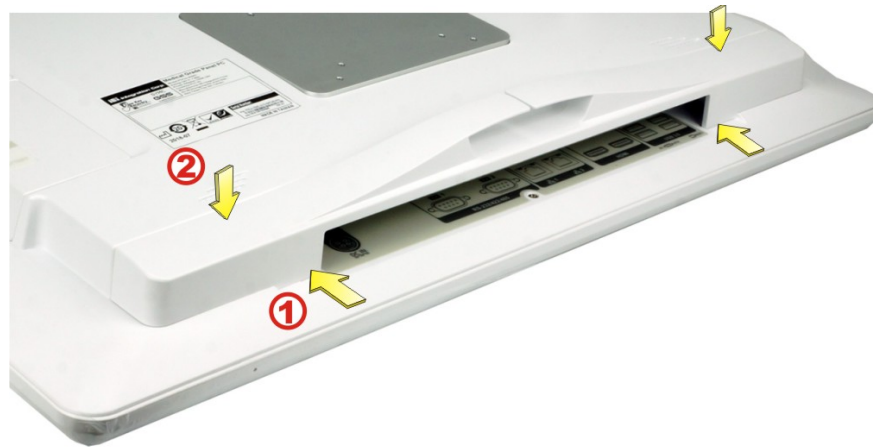

Figure 3-17: Cable Cover Installation
Step 1: Align the two tabs on cable cover with the slots on the bottom panel of the POCm-W22/24C-ULT3 (**Figure 3-17**). Then, insert the tabs into the slots.
Step 2: Push the cable cover down to clip the cover into place (**Figure 3-17**).